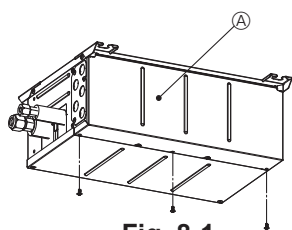
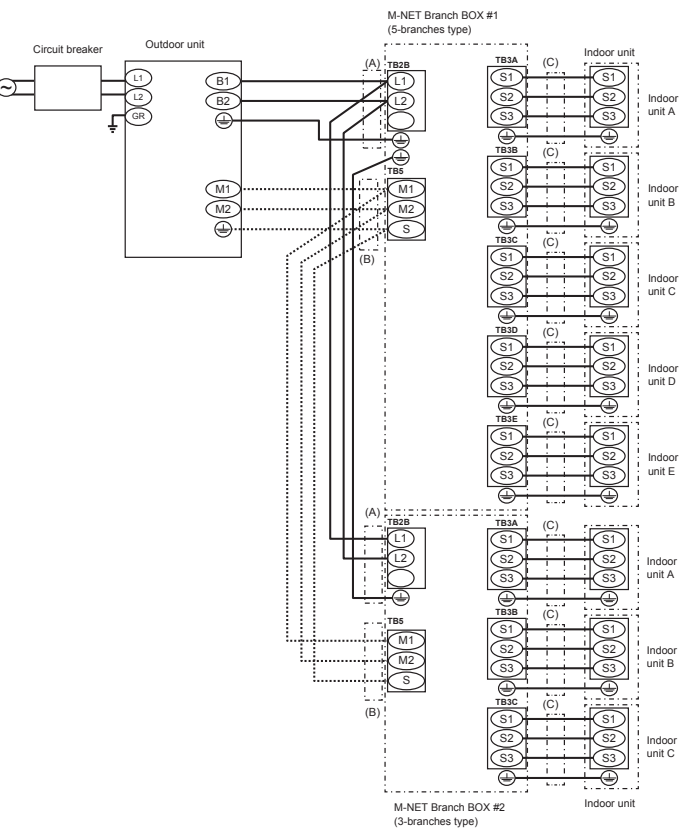

Fig. 8-1
Fig. 8-9
- (1) Remove the electric cover. (Fig. 8-1)
- (2) Remove the conduit cover.
- (3) Pass the wiring into the branch box through the conduit plate and fix with the conduit plate. (Refer to 8.1.)
- (4) Firmly connect each wire to the appropriate terminal block. (Fig. 8-9)
- (5) Set dip sw. (Refer to 8.3.)
- (6) Replace the electric cover.
8.2. External wiring procedure (Fig. 8-9)